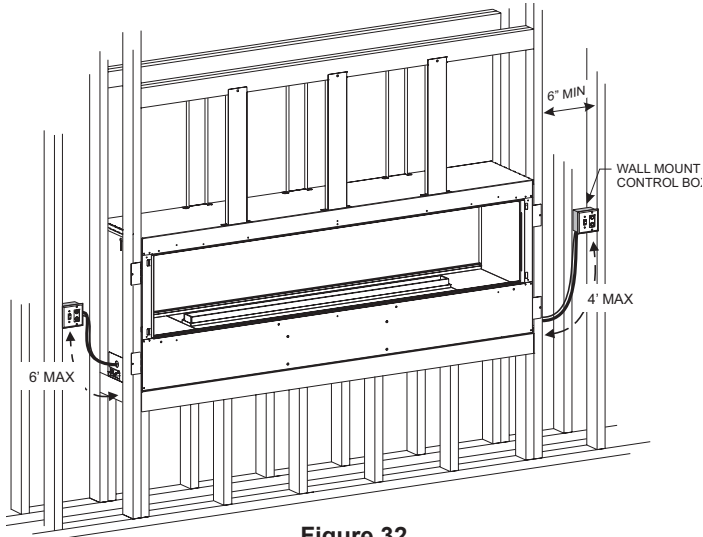

Figure 32
12. Install the wall-mounted control box within 6 feet to the left side or 4 feet from the right. **See Figure 32.**